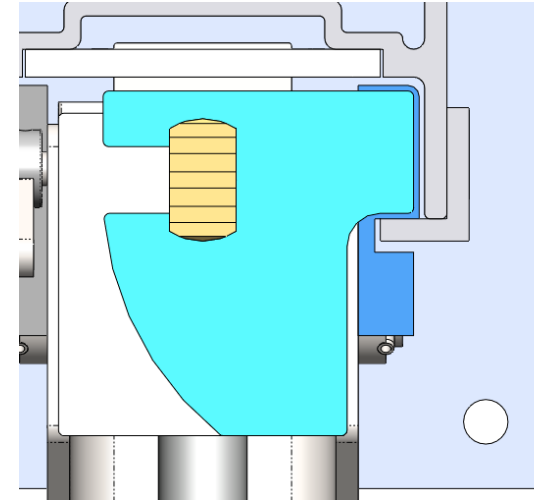

Figure 20
46. Verify that the edges of the lift side stop plate do not extend past the guide block as shown in *Figure 20*, so that the block always contacts the post before the plate. Then tighten the 5/8" nut on top of the stop plate.